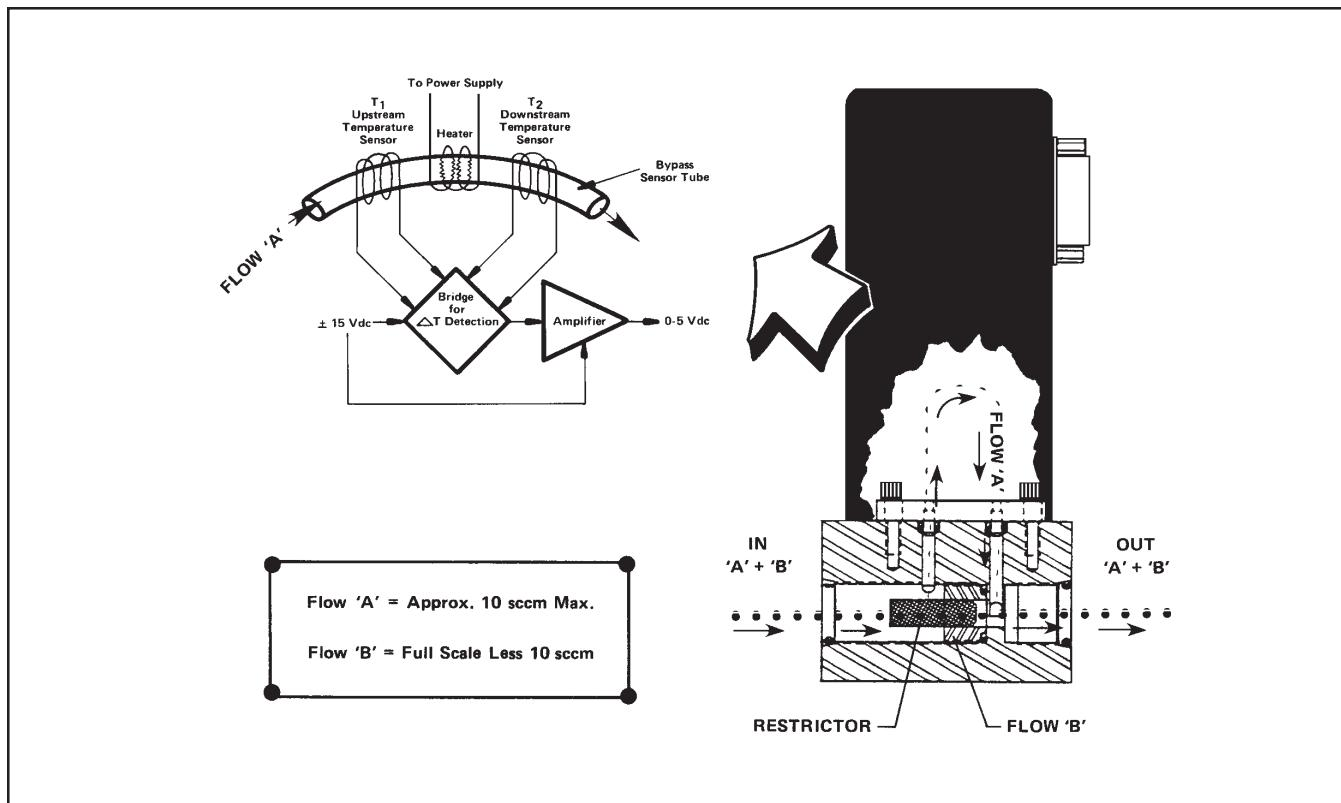

Figure 3-1 Flow Sensor Operational Diagram
A precision power supply provides a constant power heat input (P) at the heater which is located at the midpoint of the sensor tube. (Refer to Figure 3-1) At zero or no flow conditions, the heat reaching each temperature sensor (one upstream and one downstream of the heater) is equal. Therefore, the temperatures T_1 and T_2 are equal. When gas flows through the tube, the upstream sensor is cooled and the downstream sensor is heated, producing a temperature difference. The temperature difference $T_2 - T_1$ is directly proportional to the gas mass flow.
The flow restrictor shown in Figure 3-1 performs a ranging function similar to a shunt resistor in an electrical ammeter. The restrictor provides a pressure drop that is linear with flow rate. The sensor tube has the same linear pressure drop/flow relationship. The ratio of the restrictor flow to the sensor tube flow remains constant over the range of the meter. Different restrictors have different pressure drops and produce controllers with different full scale flow rates. The span adjustment in the electronics affects the fine adjustment of the controller's full scale flow.